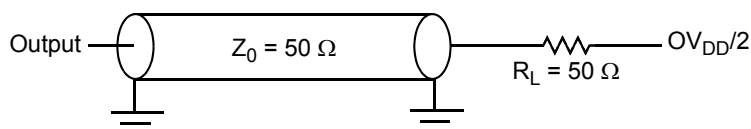

Figure 32. AC Test Load for the JTAG Interface
1. All outputs are measured from the midpoint voltage of the falling/rising edge of t_{TCLK} to the midpoint of the signal in question. The output timings are measured at the pins. All output timings assume a purely resistive 50- Ω load (see Figure 32). Time-of-flight delays must be added for trace lengths, vias, and connectors in the system.
2. The symbols used for timing specifications follow the pattern of $t_{(first\ two\ letters\ of\ functional\ block)(signal)(state)(reference)(state)}$ for inputs and $t_{(first\ two\ letters\ of\ functional\ block)(reference)(state)(signal)(state)}$ for outputs. For example, t_{JTDVXH} symbolizes JTAG device timing (JT) with respect to the time data input signals (D) reaching the valid state (V) relative to the t_{JTG} clock reference (K) going to the high (H) state or setup time. Also, t_{JTDVXH} symbolizes JTAG timing (JT) with respect to the time data input signals (D) went invalid (X) relative to the t_{JTG} clock reference (K) going to the high (H) state. Note that, in general, the clock reference symbol representation is based on three letters representing the clock of a particular functional. For rise and fall times, the latter convention is used with the appropriate letter: R (rise) or F (fall).